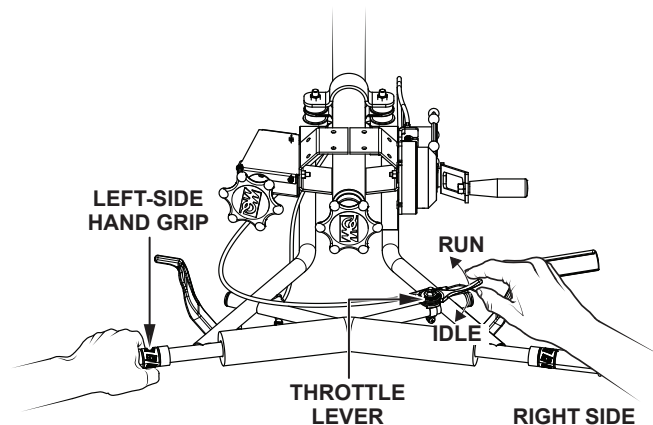

Figure 47. Throttle Lever
2. With one hand on the **left-side** handgrip, move the throttle lever (Figure 47) from the **IDLE** position to the **RUN** position.